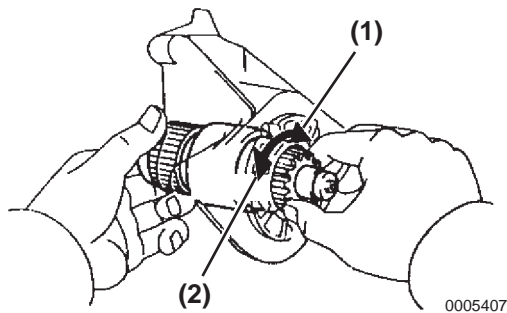

Figure 10-20
2. Check the clutch pinion gear by securing the starter clutch and turning the pinion gear clockwise (**Figure 10-20, (1)**) to check if it turns smoothly. Turn the pinion gear counterclockwise (**Figure 10-20, (2)**) to ensure that it is locked. If needed, replace the clutch assembly.